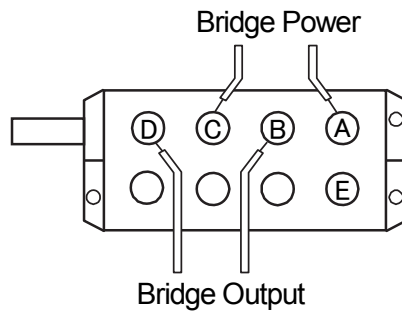

Fig.4-2 Wire connection on bridge box
- b. This is a bridge for measuring strain. Various methods are used for connecting strain gauges. For details on these connecting methods, refer to “Examples of Strain Gauge Bridge Configuration” on page 4-2. When using various types of transducers via the bridge box, make connections as shown in Fig. 4.2.